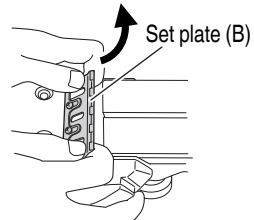

Fig. 27
- (2) As shown in Fig. 27, slide the blade in the direction indicated by the arrow to disassemble the blade.